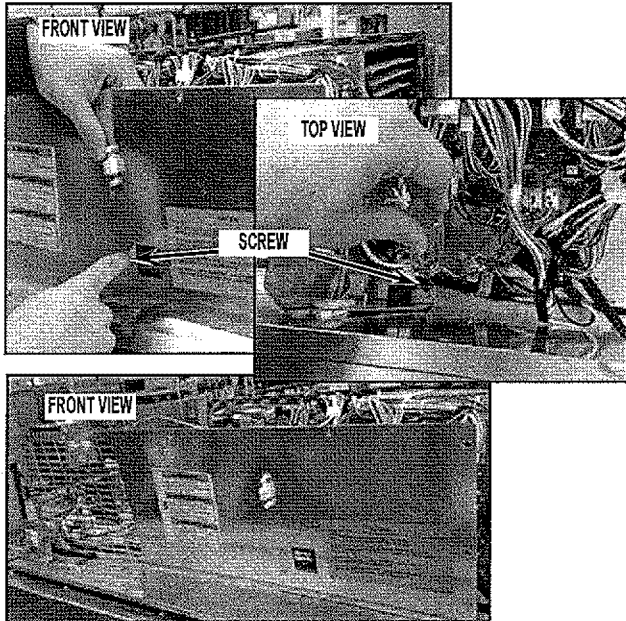

FIGURE 26
25. Assemble the front panel and switch plate assembly. Make sure that the switch and test connectors (if applicable) align before assembling the front panel. There are two screws which need to be mounted as shown in *Figure 26*. Screw quantity and locations will depend on model.